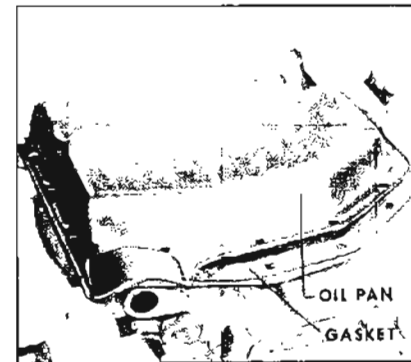

Figure 5-357
17. Install oil pan gasket and pan. See Figure 5-357.